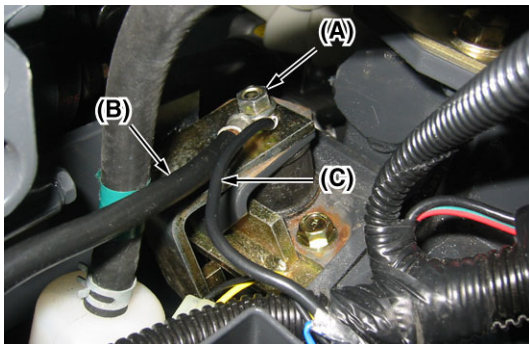

Fig. 2
Remove the nut (A), negative battery cable (B), harness ground wire (C), washer (D), and engine stopper (E). Fig. 2 & 3